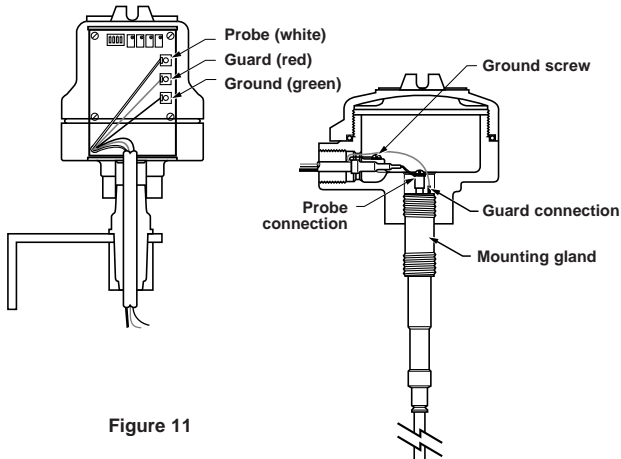

Figure 11
Remote electronic housings are normally shipped from the factory assembled into an L mounting bracket. To install the electronic housing, proceed as follows. Refer to **Figure 11**.
2. Tighten securely being certain that the wrench is applied ONLY to the mounting gland. Refer to **Figure 11**.
3. Screw probe housing onto the probe. Refer to **Figure 11**.